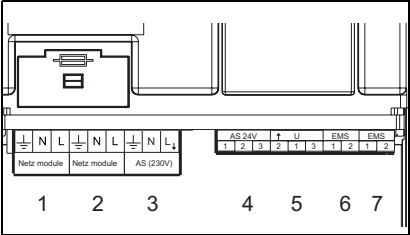
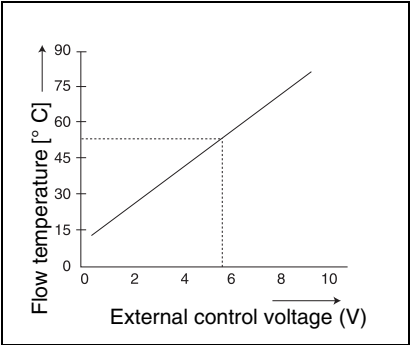

fig. 2 Connections
fig. 3 0 – 10 V diagram
- a) The AS 24 V connection (fig. 2, pos. 4), this is a potential-free switching contact for low voltage signals of up to 24 V. This malfunction signal can for example, be evaluated by a building management system.
- b) The AS 230 V connection (fig. 2, pos. 3), this can for example operate a horn or warning light. In case of a malfunction, there will be 230 VAC on this connection.
The EM10 can be used as an interface between the boiler and, for example, a building management system. With the 0-10 V DC signal (fig. 2, pos. 5), the flow temperature or the power of the boiler can be controlled (fig. 3).
This control is activated if pins 1 and 3 are bridged. See fig. 2, pos. 5 and the wiring diagram on page 47. The EM10 transfers the 0-10 V signal to a power setpoint. This is a linear ratio, see table 2.